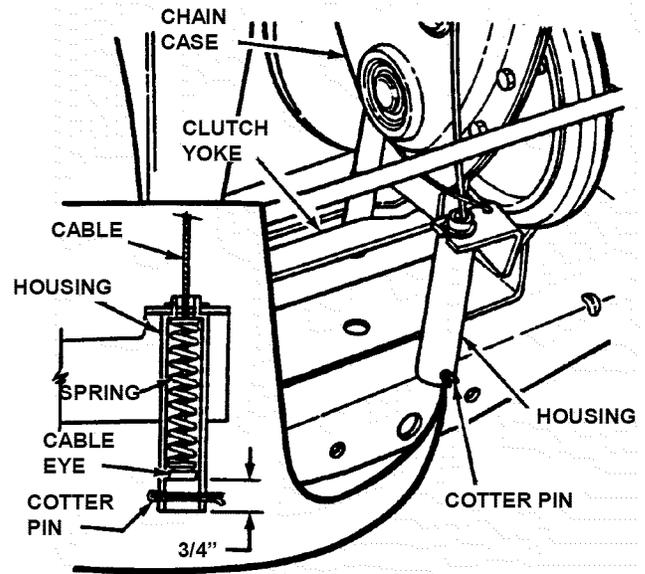

FIGURE 4.9
5. Measure the distance between end of clutch/brake cable and bottom of housing. Measurement should be 3/4". See inset of Figure 4.9.
7. Adjust cable up or down using the jam-nuts to obtain a distance of 3/4" between end of clutch/brake cable (adjustment shown in inset of Figure 4.9) and bottom of housing. See Figure 4.9.